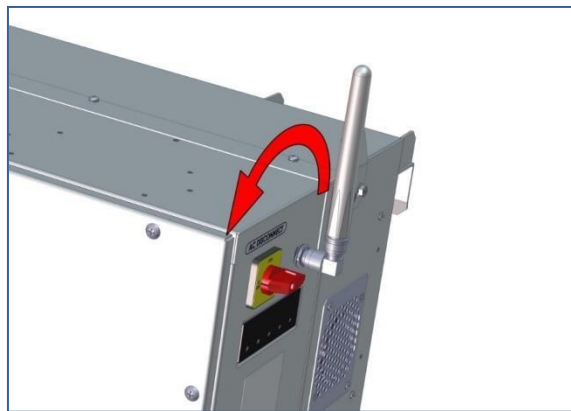

Figure 4.1 Rotate the XGI 1500 Inverter AC Disconnect to the “Off” position
- ✓ Confirm that the AC switch on the XGI 1500 inverters (on the rack with other equipment in the PVS-500 DC-Coupled Storage system) are in the “off” position (**Figure 4.1**).